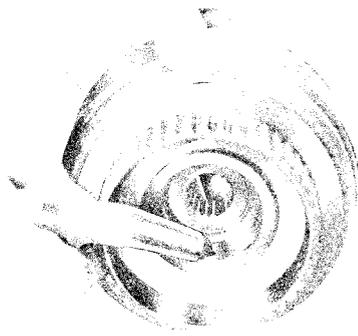

Fig. 7B-30 Blowing out piston
5. Apply air pressure to the clutch piston pressure hole in the clutch drum, as shown in Fig. 7B-30, and remove the piston.